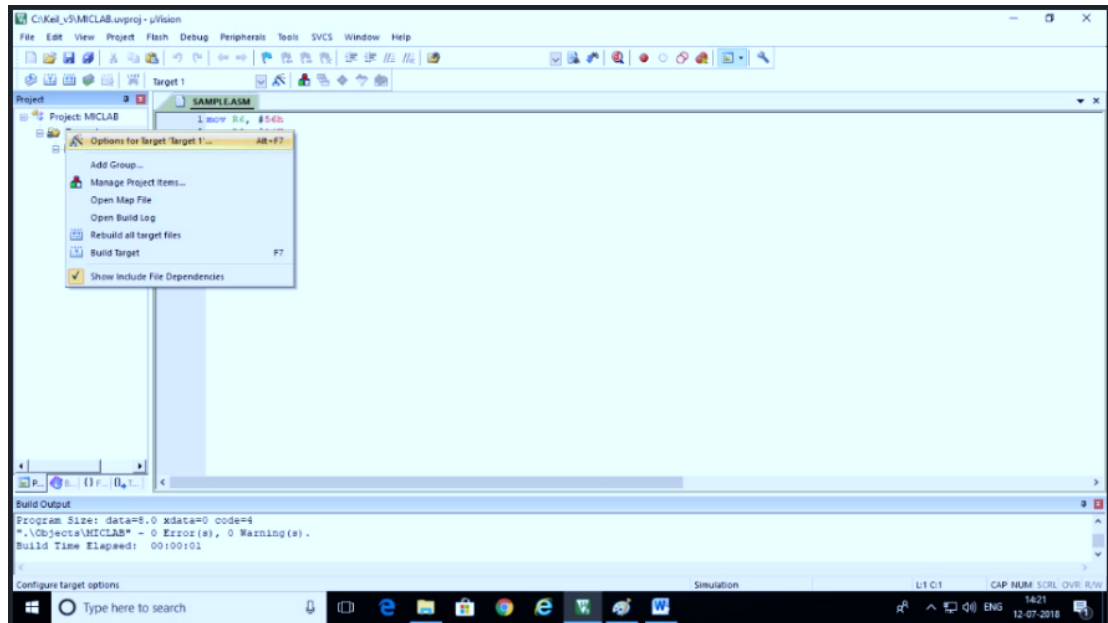

Figure 4.10: Options for Target 1 Window
14. To create a hex file, follow this procedure (refer Figure 4.10 & 4.11)